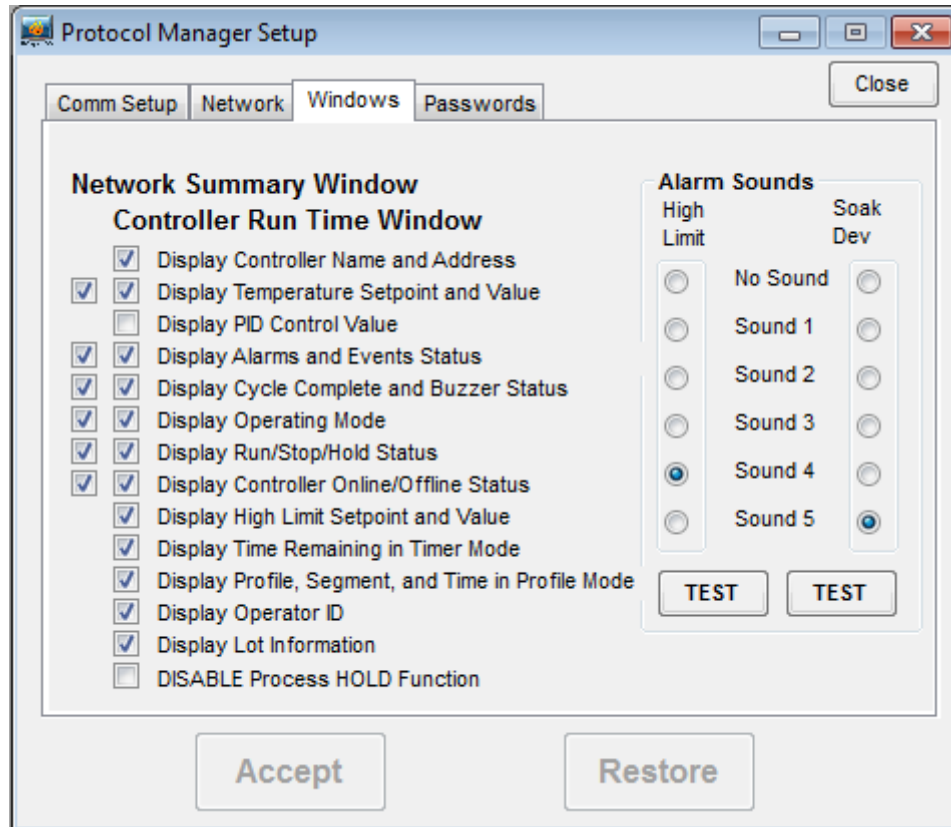

Figure 14: Protocol Manager Setup - Windows Tab
1. The third tab from the left on the **Software Setup** window is the **Windows** tab. This allows the operator to select the parameters that may be viewed from the **Network Summary Window** and the **Controller Run Time** window. Press this tab to bring up its screen. See Figure 14.